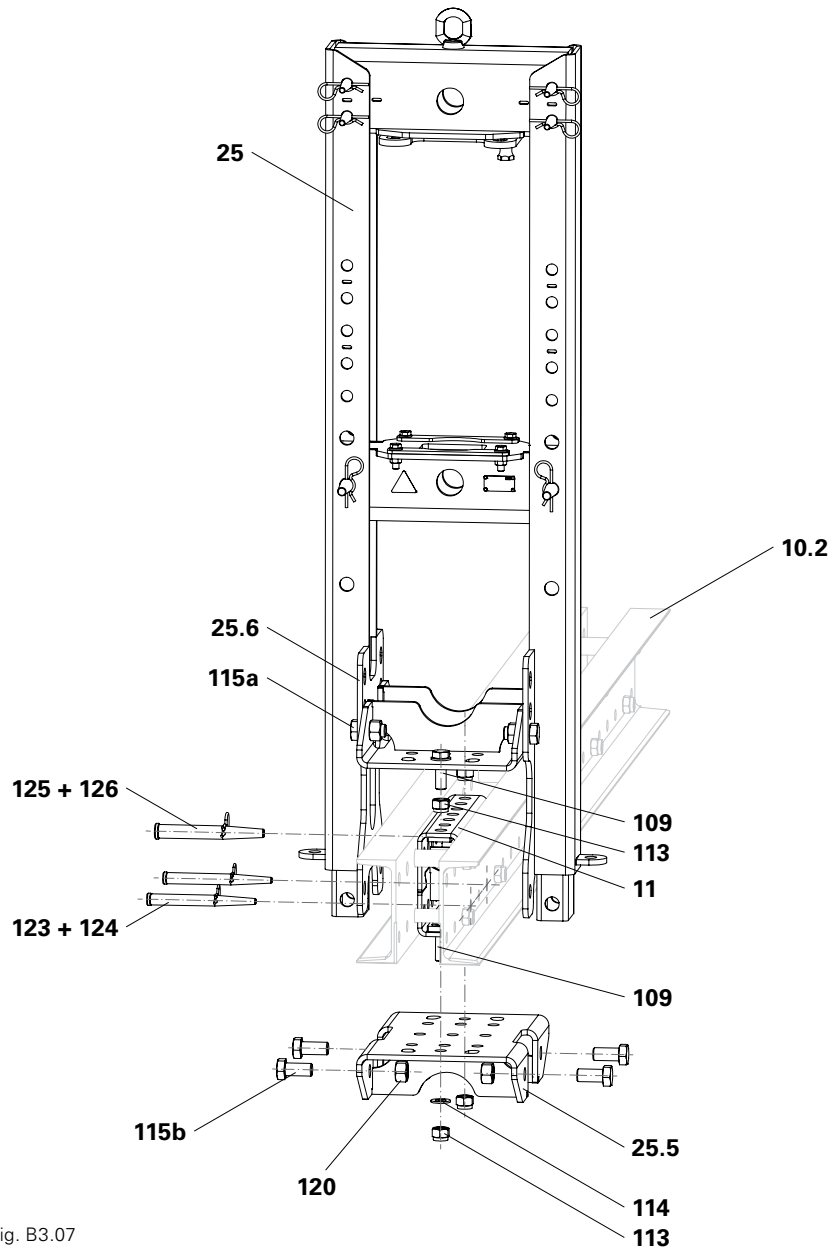

Fig. B3.07
1. Connect two Multi-Adapters RCS (11) together to form one assembly unit.
2. Fix the assembly unit in the top row of holes at the designated assembly position with fitting pin 26x120 (125) and secure with cotter pin 5/1 (126).
3. Fix the assembly unit in the bottom row of holes with two fitting pins 21x120 (123) and secure with cotter pins 4/1 (124).
5. Attach the Lift Frame (25) to the crane lifting gear and fly in.
7. Fix the bottom Girder Connection (25.5) in its original position with bolts M24x50 (115b) and nuts M24 (120).
9. Fix the Lift Frame (25) to the Multi-Adapter RCS assembly unit with bolts M20x60 (109), washers M20 (114) and self-securing nuts M20 (113).
11. Remove crane lifting gear. (Fig. B3.07)